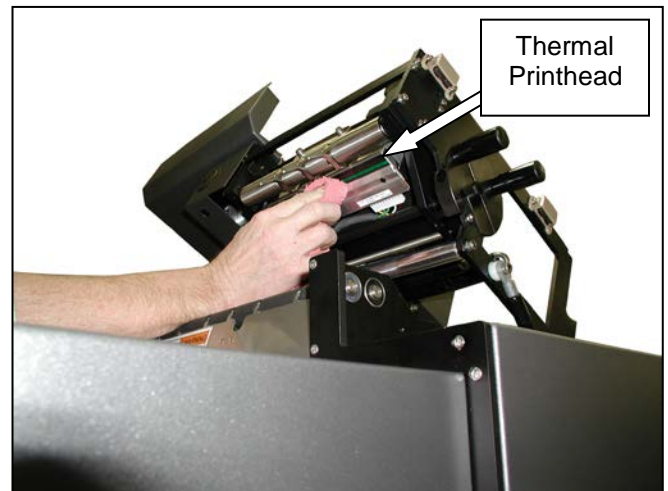

Figure 2-2. Cleaning the Printhead
3. Moisten a soft, lint-free cloth with isopropyl alcohol and gently wipe the surface of the printhead to clean dust and residue from the surface, as shown in Figure 2-2.